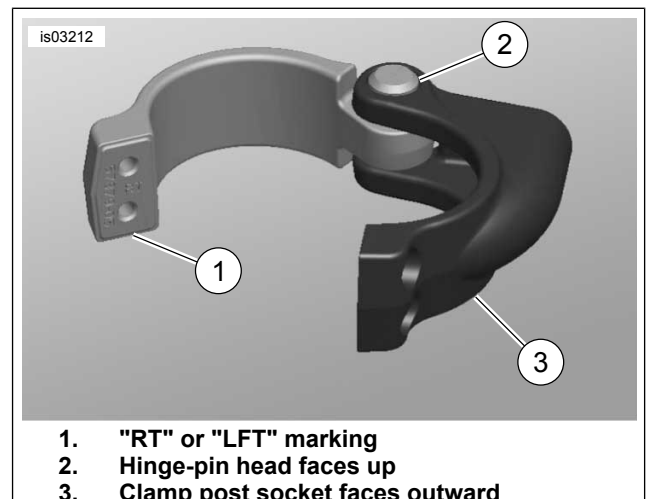
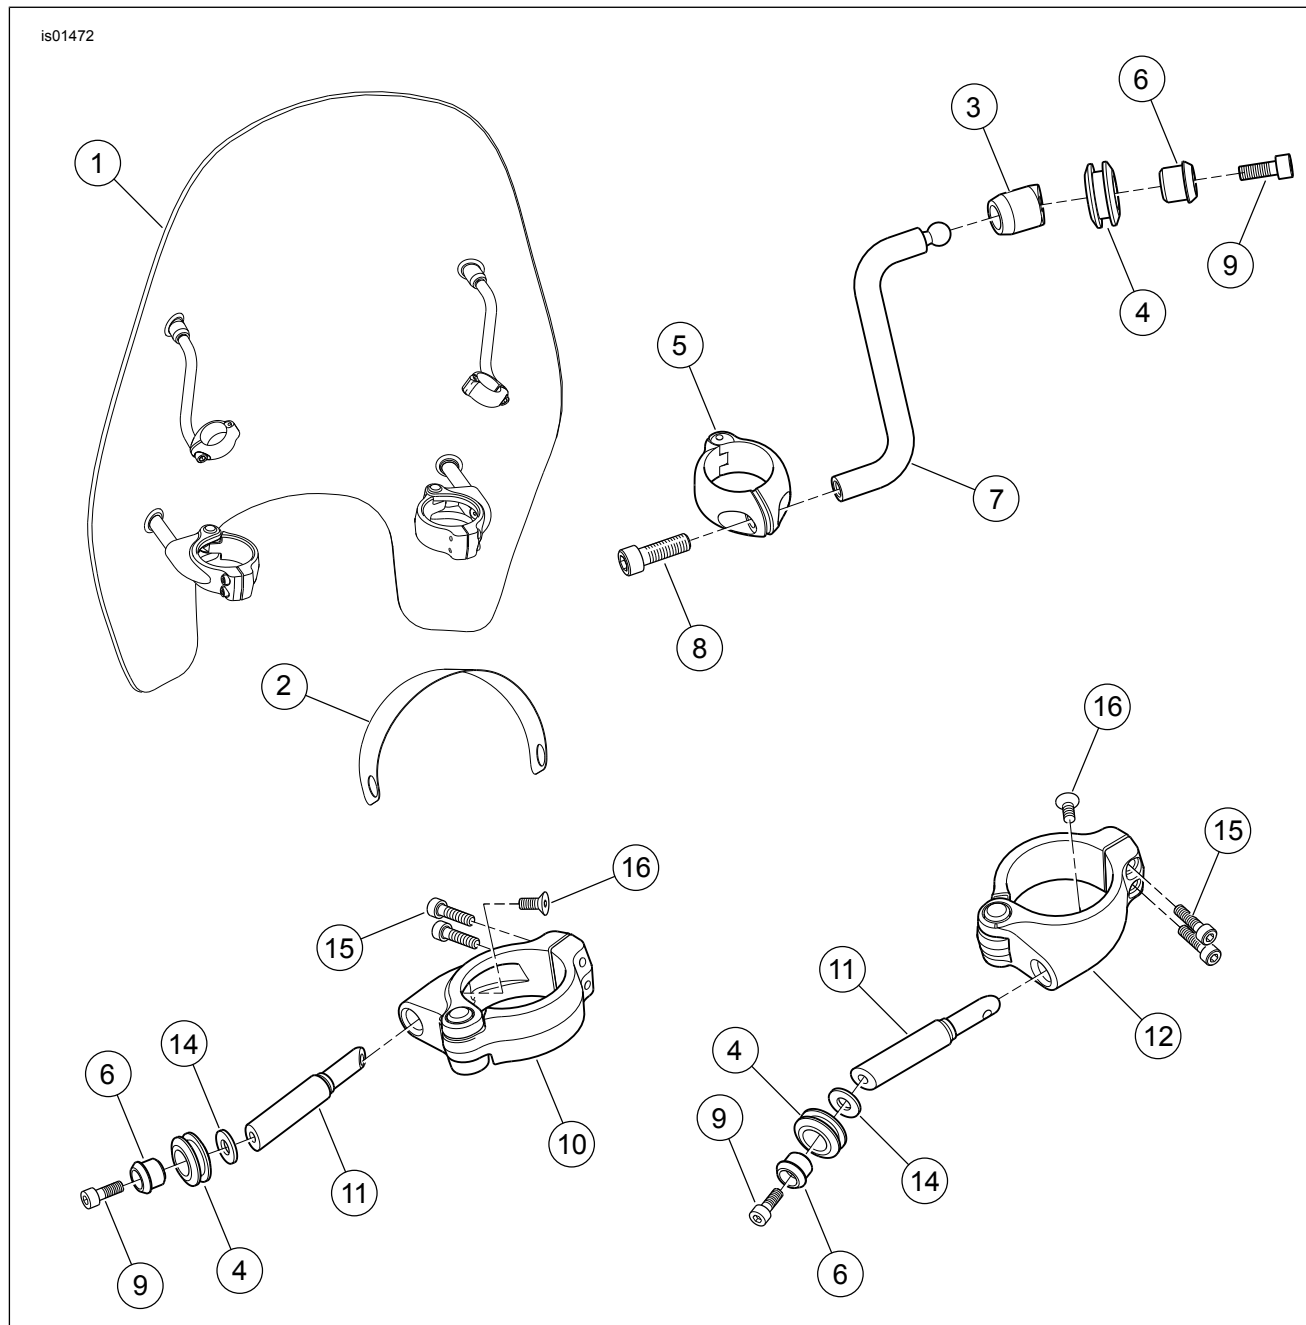

Figure 3. Fork Tube Clamp and Post Identification (Right-Side Clamp Shown)
Figure 5. Service Parts: Mid-Sport Windshield
See Figure 5 and Table 2 for Mid-Sport Windshield Kit Contents.
2. See Figure 5. Obtain the headlamp visor (2) from the kit.
1. See Figure 5. Obtain one of the lower mount kits from the windshield kit carton. Identify the fork tube clamp for right-side (RT) or left-side (LFT) installation as indicated in Figure 3.
2. Insert the rounded end of the post into the socket in the fork-tube clamp, oriented as shown in Figure 5. Lining up the hole in the end of the post with the hole in the clamp. With a 3 mm hex key, fasten the post to the clamp with the flat-head screw (16) from the kit, and tighten to 6.8 Nm (60 in-lbs).
3. Place the clamp around the correct-side fork tube with the hinge-pin head facing up. Insert the two longer screws (15) from the lower mount kit through the counterbored holes in the outboard side of the clamp, and thread the screws part-way into the tapped holes in the inboard half.
- With a 4 mm hex key, tighten the four clamp screws (15) to 5.1-5.7 Nm (45-50 in-lbs).
- See Figure 5. Tighten the two post screws (9) to 8.5 Nm (75 in-lbs).